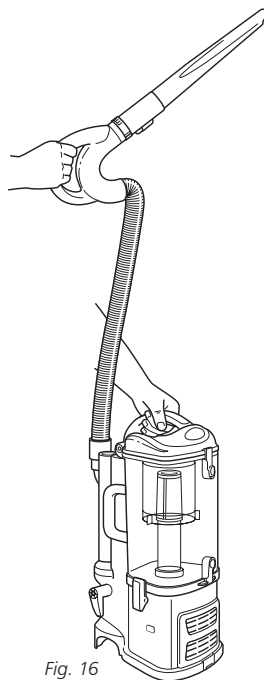

Fig. 16
- 4 Press the On/Off switch to the "I" position to turn the vacuum on for above-floor cleaning and hold the handle in one hand while you carry the portable *Lift-Away*® around the house with the other hand. (Fig. 16)